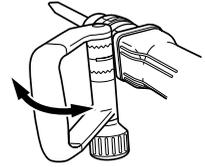

Fig. 6
- (2) Adjust it to a position where vertical (up-and-down) operation can be facilitated as illustrated in Fig. 6, Fig. 7, and Fig. 8.
- (3) Turn the grip in the direction of (B) and fix the handle.